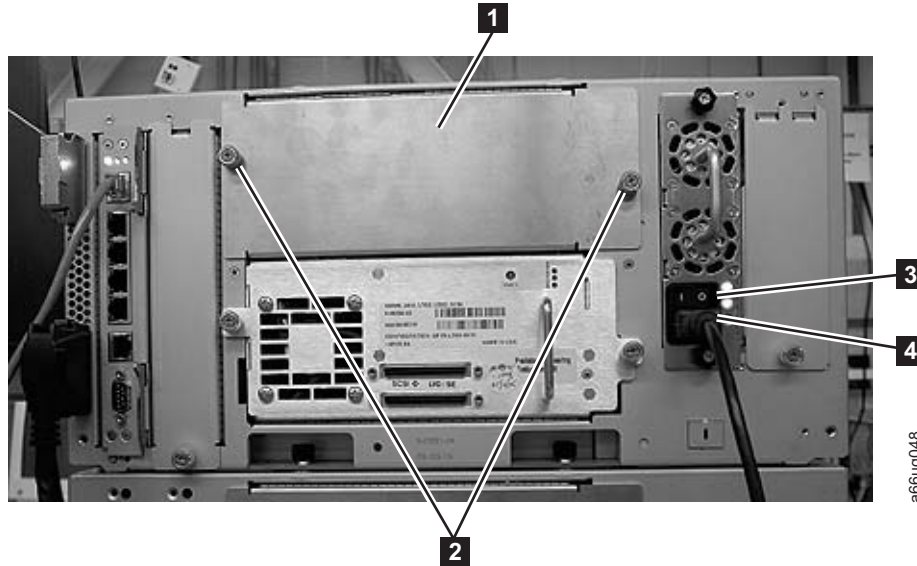

Figure 11-3. Control module with one SCSI drive and one cover plate
Attention: First, disconnect the power cord from the power source. Then, disconnect the power cord from the power supply receptacle (**4** in Figure 11-3 on page 11-5).
- a. Locate the module's vacant drive slot. Detach the cover plate over the drive slot by turning the two thumbscrews (**2** in Figure 11-3 on page 11-5) counterclockwise to loosen them and then removing the cover plate (**1**).